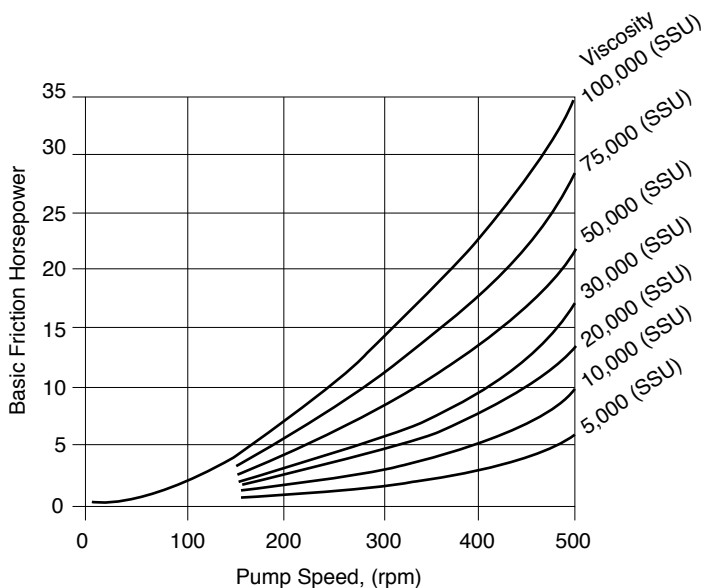

FIGURE 67. Effect of Viscosity Increase on Horsepower
- Power required to drive the pump increases with viscosity as shown in Figure 67. The power shown on the curve is called *basic friction horsepower*. This power represents only that used to cause the liquid to flow through the pump. It does not include the power required to overcome the system's external head.